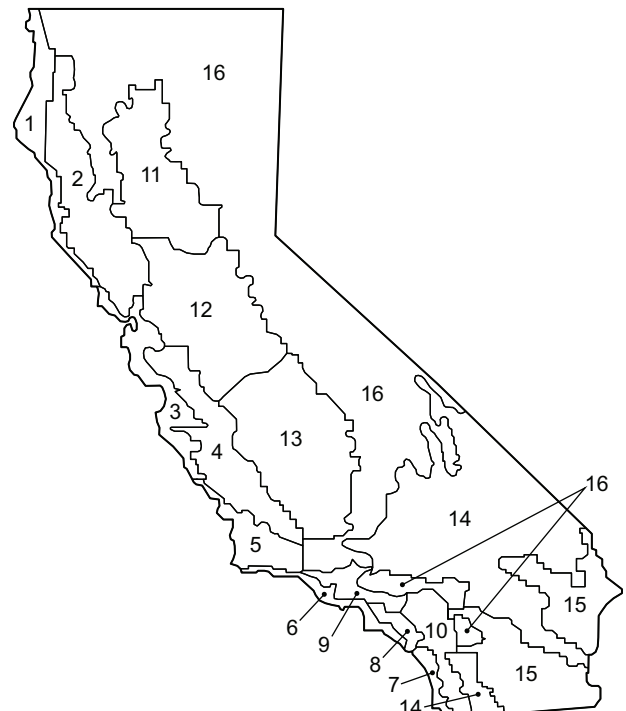

Fig. 89 – California Title 24 Zones
b. See Fig. 89 for map of California Title 24 zones.